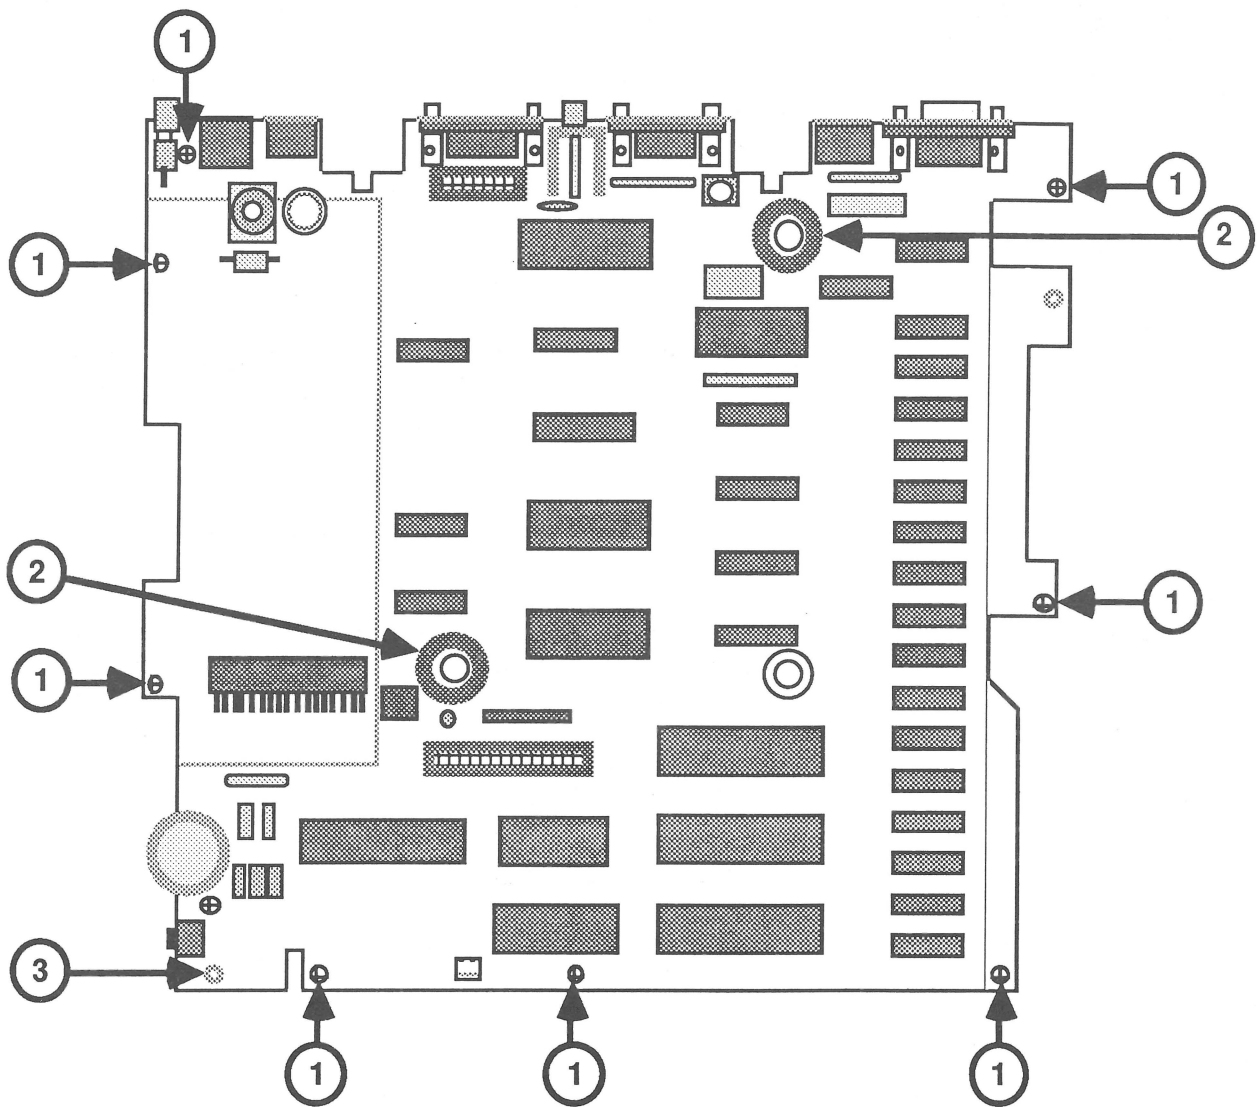

FIGURE 7
6. Remove the screws that attach the logic board to the case (Figure 7, #1). Depending on the version of logic board installed, there will be either eight or nine screws.
7. Remove the two wire-mesh toroids (Figure 7, #2).
8. Carefully remove the logic board by lifting it off its posts and then pulling it out to the right. Be careful of the small post at the front, near the headphone connector (Figure 7, #3).